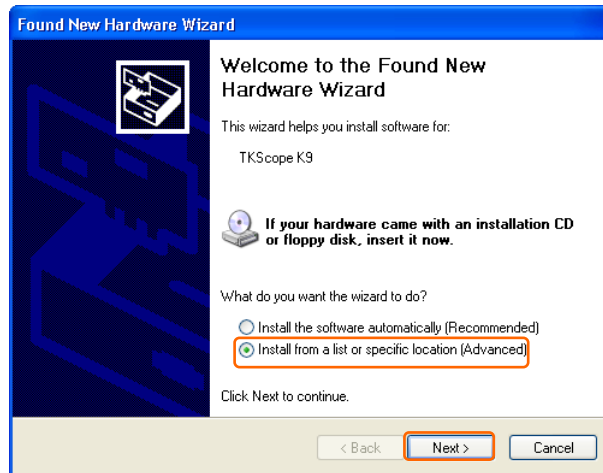
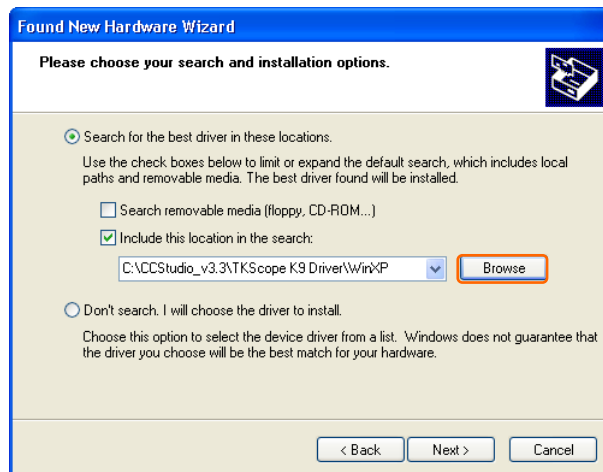

Figure 2.5 Found new hardware wizard
Figure 2.6 Select driver box
1. For the first time, TKScope emulator power use, the system will pop-up dialog box shown in Figure 2.5. Need to specify the exact location of USB device driver.
2. Select [Install from a list or specific location(Advanced)] option in Figure 2.5, click [Next], the system will pop-up dialog box as shown in Figure 2.6.
3. In Figure 2.6, click [Browse], open the dialog box as shown in Figure 2.7. Find the driver files in TKScope emulator installation directory, click [OK].